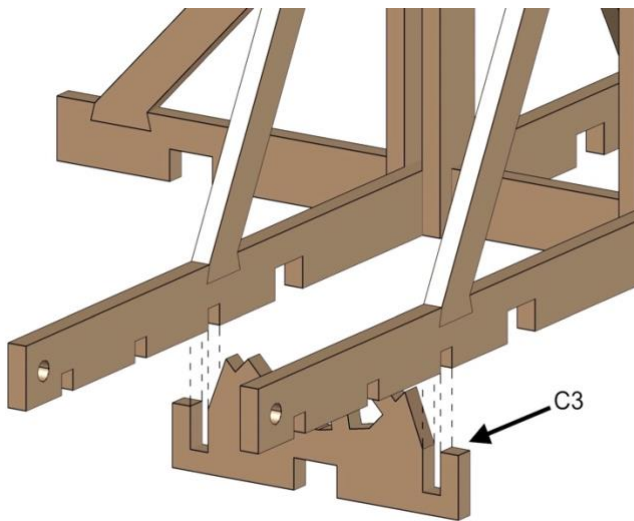

Fig. 22
- Align parts exactly as shown in *Fig. 22*.